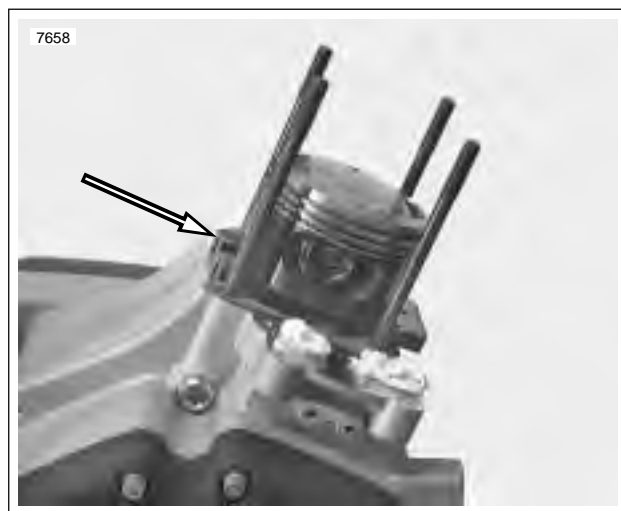

Figure 3-88. Piston Support Plate (Part No. HD-42322)
- See Figure 3-88. Turn engine until piston is resting on top of PISTON SUPPORT PLATE (Part No. HD-42322) top dead center.